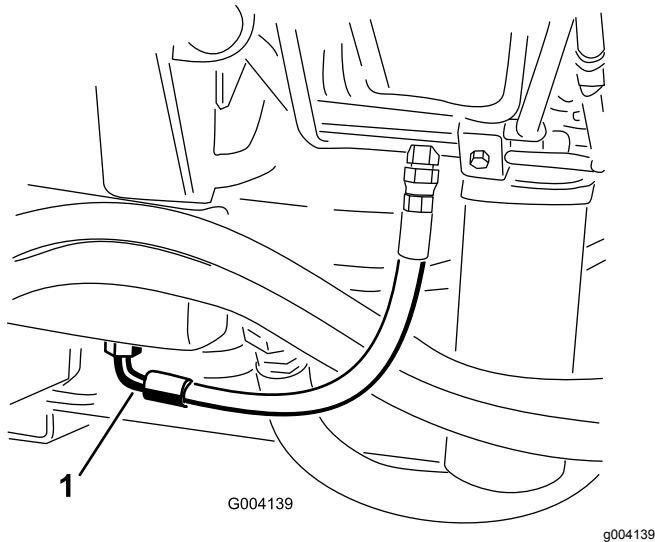

Figure 58
2. Place a large drain pan under the fitting secured to the bottom of the hydraulic-fluid reservoir (Figure 58).